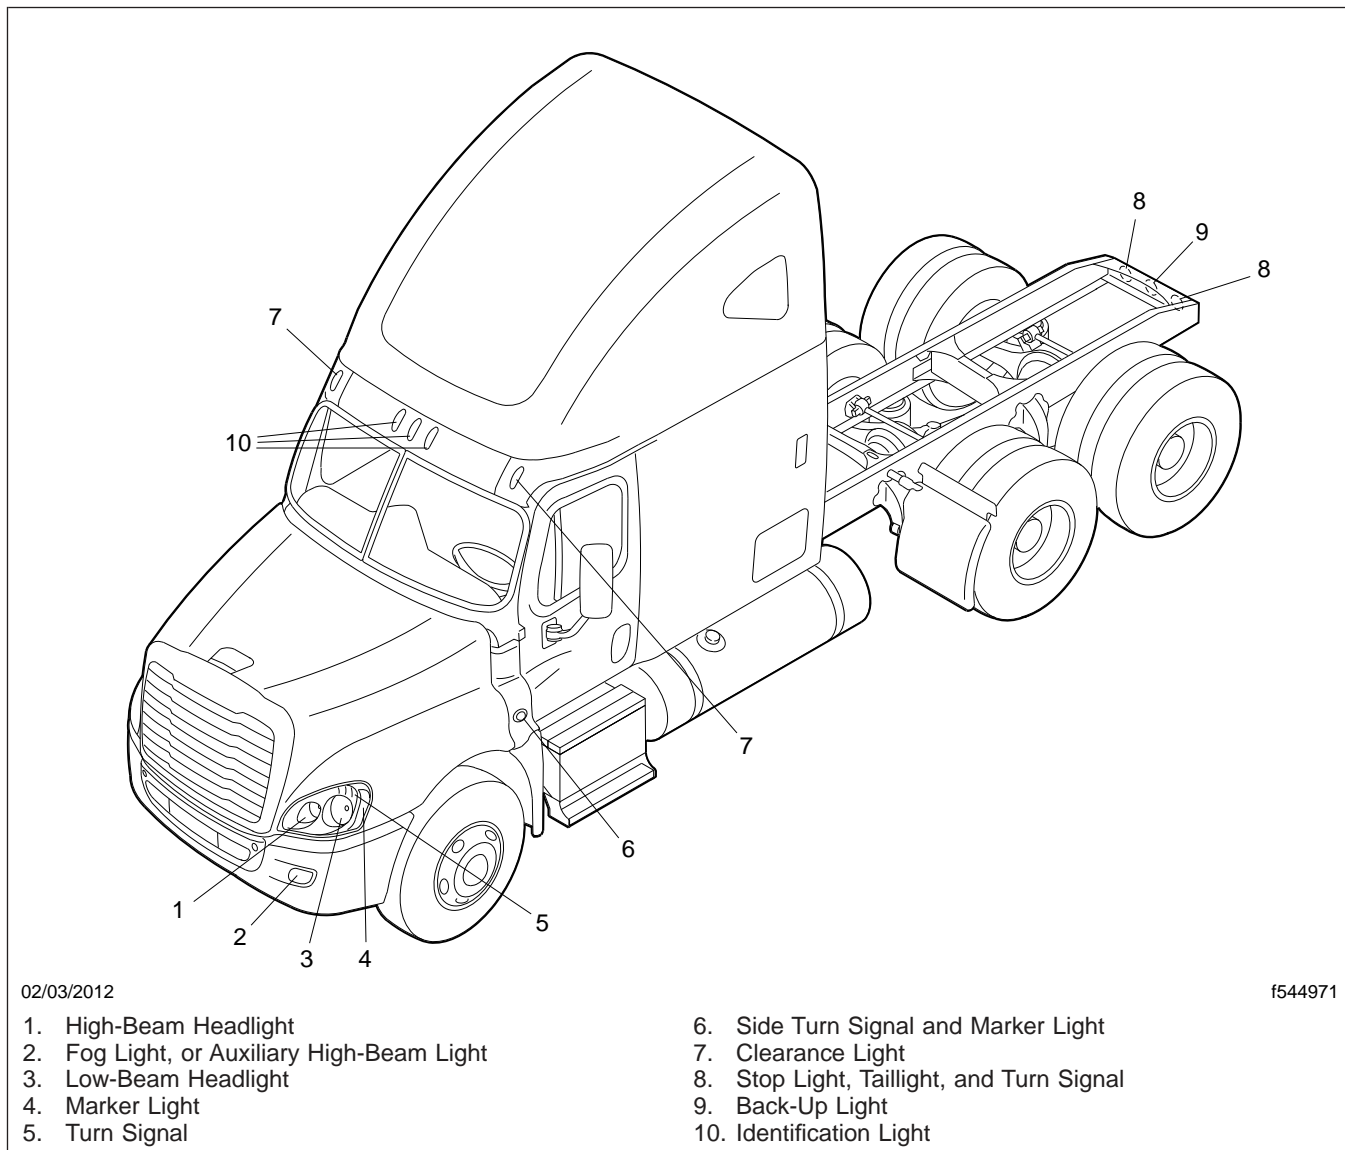

Fig. 21.7, Exterior Lights
11. Check the operation of all exterior lights. See **Fig. 21.7**.